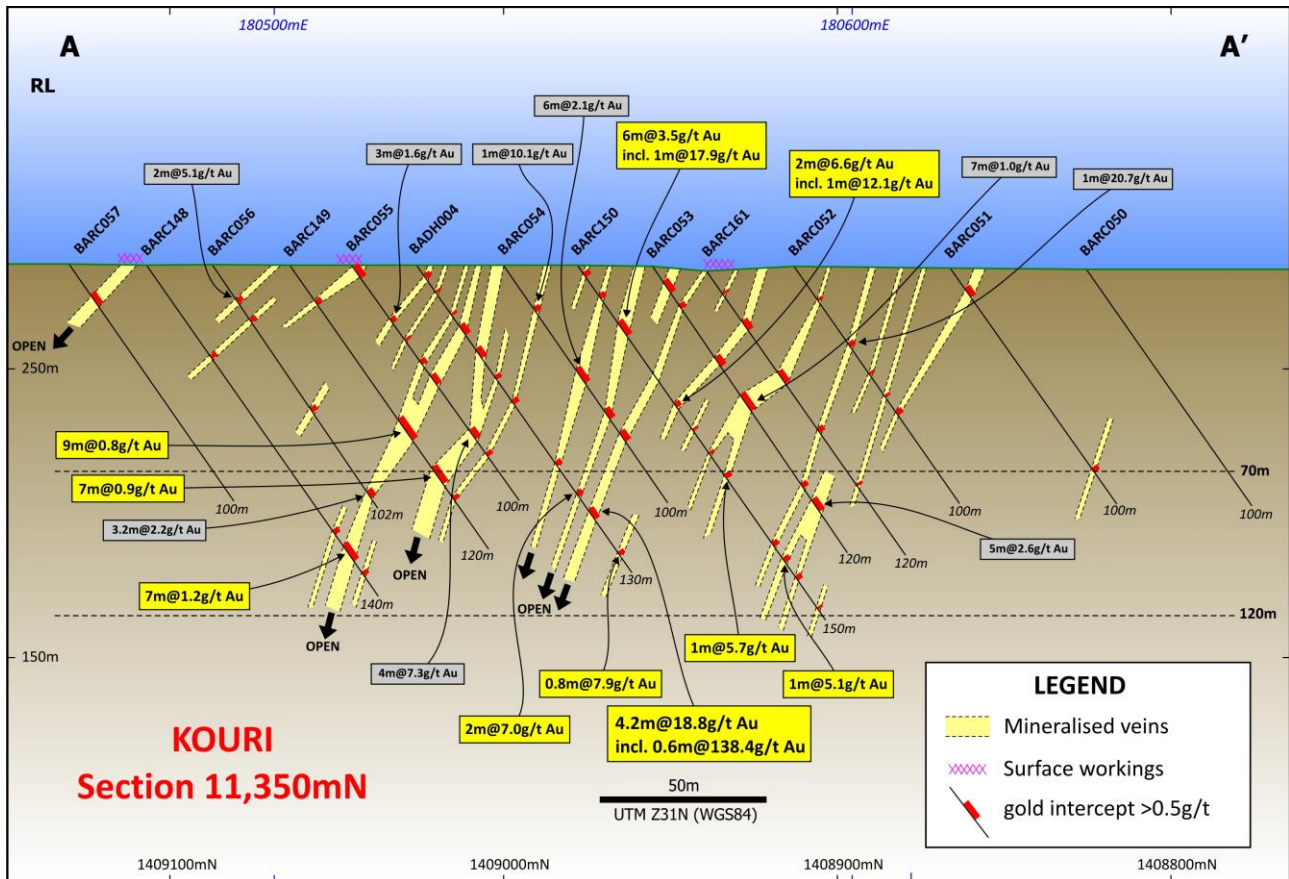

Figure 2. Drill section 11,350mN at Banouassi. Significant new gold intercepts depicted in yellow boxes.
- Three closely spaced parallel intercepts of **2m at 7.0 g/t gold** from 97m; **4.2m at 18.8 g/t gold** from 104.8m, including **0.6m at 138.4 g/t gold**; and **0.8m at 7.9 g/t gold** from 122.2m in BADH004 on Section 11,350mN (Figure 2).